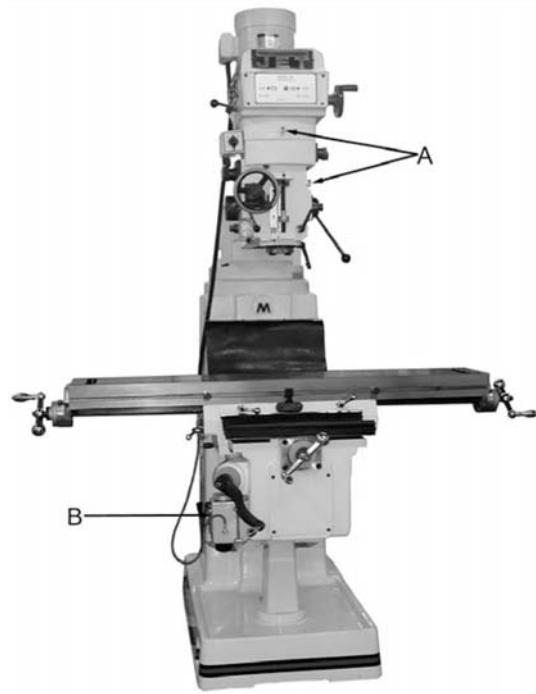

Figure 2
3. Turn the hex head of the worm shaft (B, Fig. 2) using a 19mm socket and breaker bar. Raise the head aligning the zero marks on the scales. With the help of another person support the head while it is raising.
1. Spindle Bearings & Quill (A, Fig. 2)- fill oil cups once daily with Mobil DTE® Oil Light.
2. Oil Pump (B, Fig. 2)- fill reservoir as needed by removing cap on top of tank and filling with Mobil DTE® Oil Light. Pump oil with release handle daily. Way surfaces and leadscrews are lubricated in this manner.